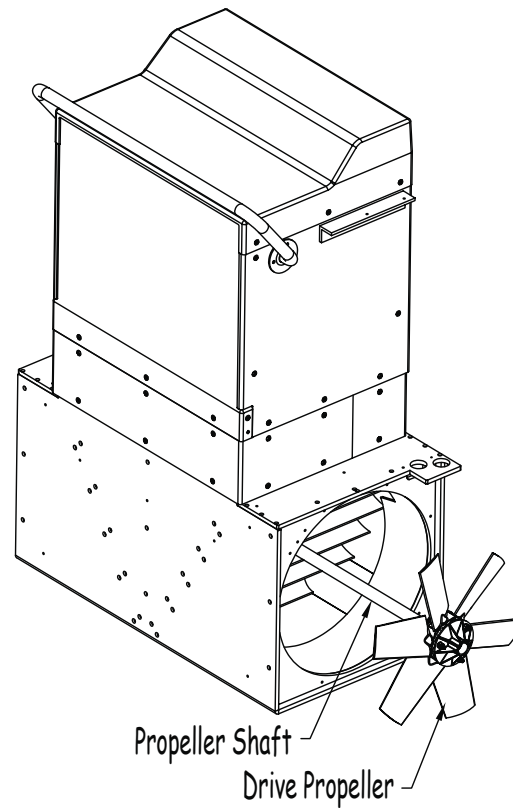

Fig 23
22. To access the hex head screw and nut that secures the drive propeller to the propeller shaft, slide the propeller shaft and drive propeller out of the propulsion system base until the hex head screw and nut are accessible. Do not remove the shaft completely (Fig 23).